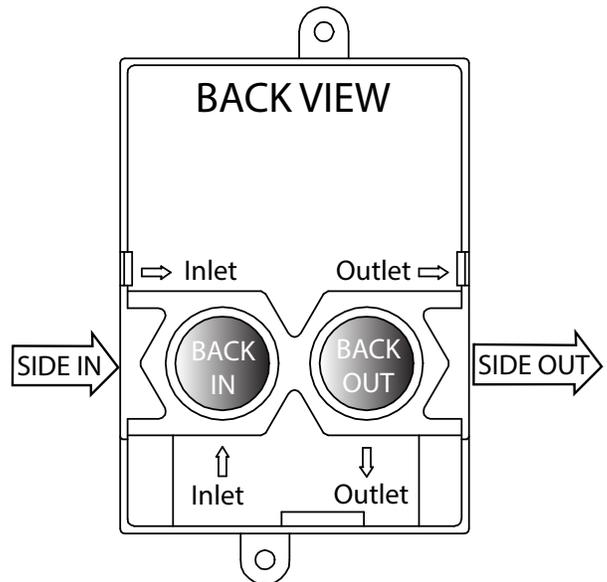
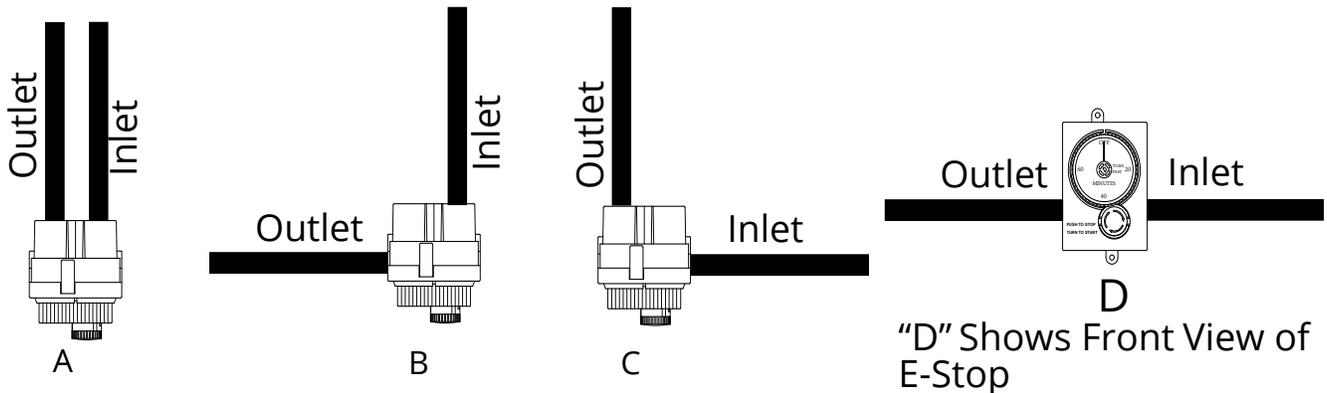

Fig. 2 Inlet and outlet connections.
Fig. 3 Plumbing options
The recommended installation position is up-right as shown in Fig 2, view "D". It has two (2) inlet and two (2) outlet gas connections. The diagrams below provide possible ways to plumb the E-Stop (See Fig. 3). Two (2) ½" NPT plugs are provided with the E-Stop. Plug the inlet and outlet connections not being used for the application. Connect gas supply to the inlet with the ⇨ arrow pointing into the valve. Connect outlet side to the gas appliance (See Figs. 2 & 3 for details).